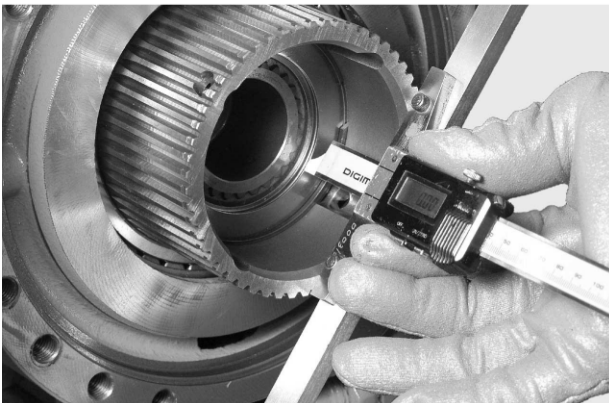

Fig 20.
- 7 Zero a depth gauge from the end of the differential brake disc carrier-splines to the thrust bearing-face of the differential friction pack. ⇒ Fig 20. \(□ G-10\).